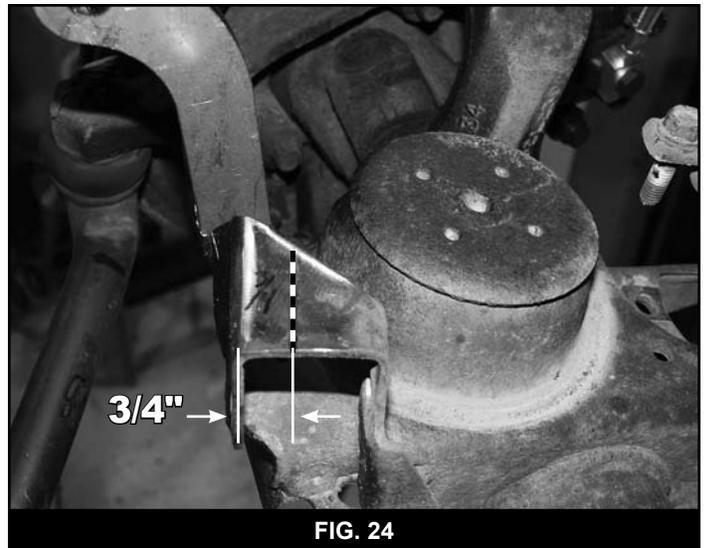

FIG. 24
60. Locate the top of the original stabilizer mount on the passenger's side of the axle. Mark from the front edge of the bracket toward the rear  $\frac{3}{4}$ " and mark on the top of the bracket (Fig 24). Make a line along the top of the bracket, parallel to the front face at the  $\frac{3}{4}$ " marked distance. This will be a reference line for installing the new stabilizer mount/support gusset.